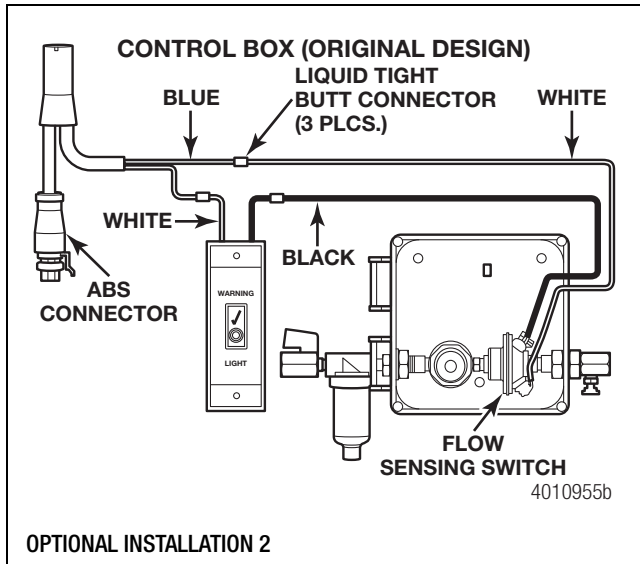
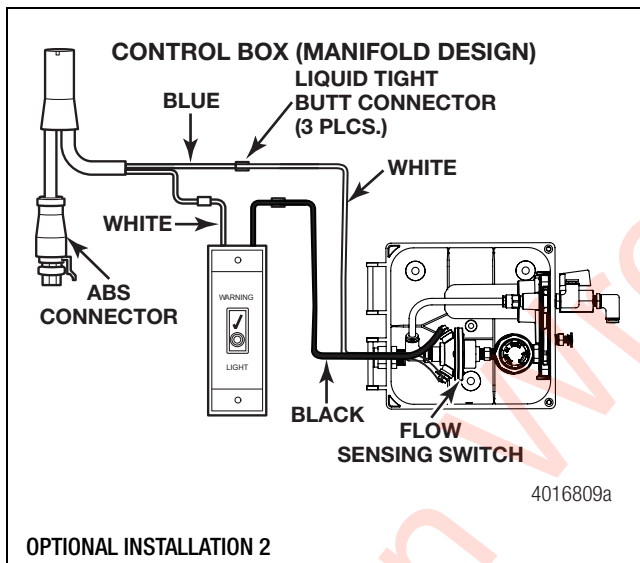

Figure 2.76
Figure 2.77
4. At the ABS connector, connect the white wire from the control box to the blue wire from the ABS connector. Connect the black wire from the control box to the black wire from the warning light. Connect the white wire from the warning light to the white wire from the ABS connector. Use a liquid tight connector at all connections. Figure 2.76 and Figure 2.77.